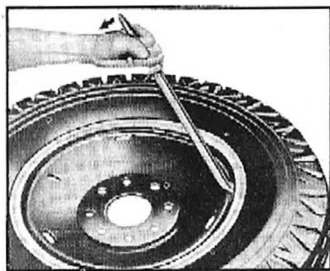

Fig. 74— $\frac{3}{4}$ Ton Tire Removal
4. Insert curved end of tire iron in the square notch in the retaining ring and pry out and up while holding the ring down into the gutter at the opposite side (fig. 74). Continue this operation until the cutaway portion of the retaining ring nearest the tire iron spans the outside diameter of the rim gutter.